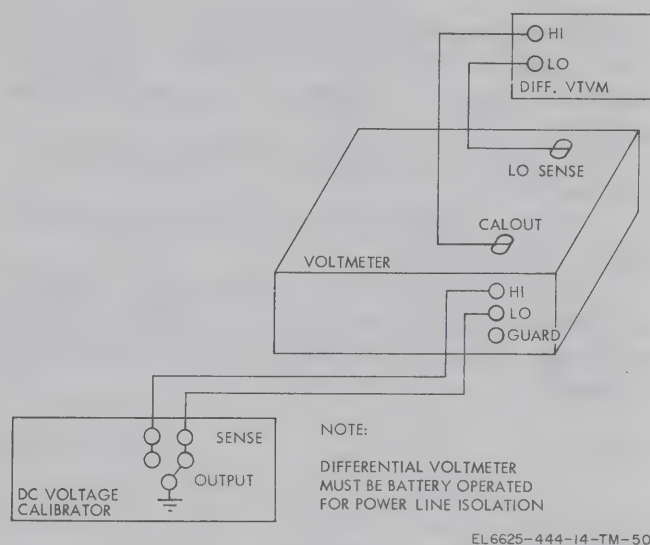

Figure 6-26. Alignment equipment connections.
INPUT terminals and connect the test equipment as shown in figure 6-26.
(1) Connect the equipment as shown in figure 6-26.
(2) On the differential voltmeter, set the range to one volt, the readout to .550000, and the null sense to 0.1.
(3) Turn the COMPARATOR LEVEL adjustment (A9R61) to the fully clockwise position.
(4) Set the dc voltage calibrator output +8.00052 VDC.
(5) Adjust the +CAL adjustment (A9R17) to obtain a digital readout of +8.0005 on the voltmeter display, and a null on the differential voltmeter.
(2) Using the dc voltage calibrator, apply